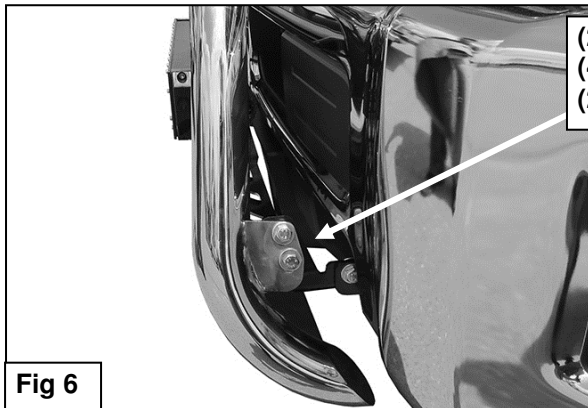

Fig 6
(2) 10mm Nylon Lock Nuts
- With assistance, position the Bull Bar assembly up to the outside of the Mounting Brackets. Attach the Bull Bar to the Brackets with the included (4) 10mm x 30mm Hex Bolts, (8) 10mm Flat Washers and (4) 10mm Nylon Lock Nuts, **(Figure 6)**. Do not fully tighten hardware at this time.